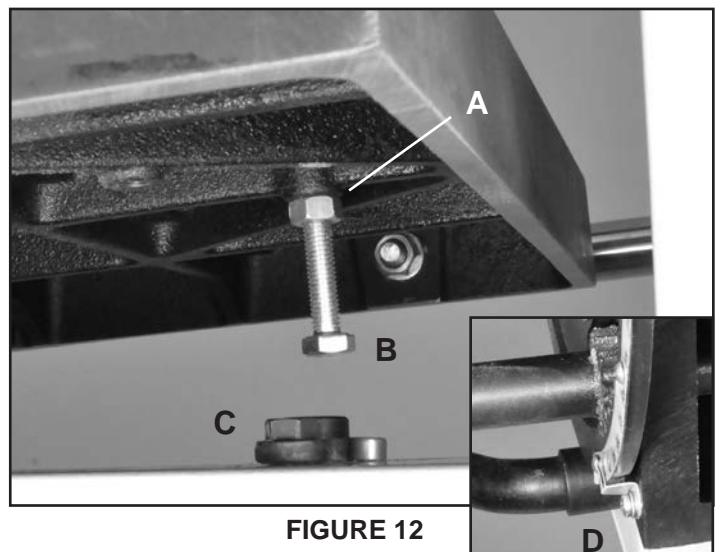

FIGURE 12
1. First loosen the bolt's Locking Nut (#7B) Fig. 12, A.
3. Adjust the bolt (Fig. 12, B), up or down, until it is in contact with the pivoting Table Angle Stop Block (#69A) Fig. 12, C. Retighten the locking nut making sure that the table angle setting is maintained.
4. The angle indicator on the trunnion, under the table, can be adjusted by loosening the Phillips head screw and moving the pointer into position. Fig. 12 D.